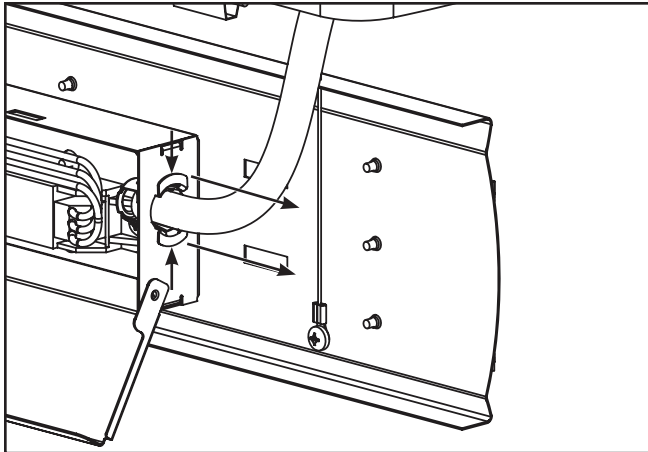

Figure 9.
10. Squeeze tabs of the clasp holding the flexible metal conduit into the driver enclosure and pull the clasp completely out of the knockout in the enclosure. (Figure 9)